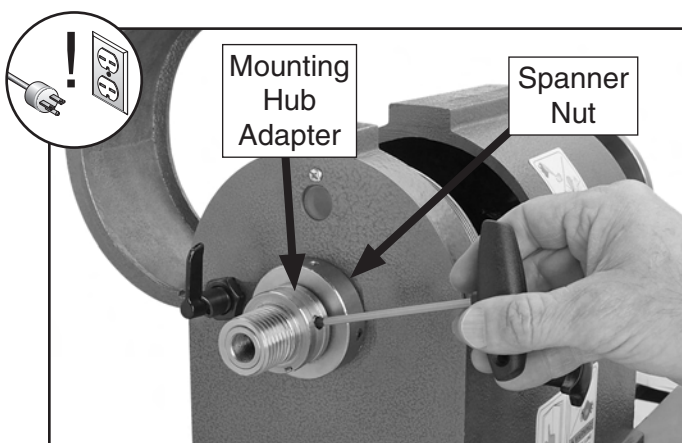

Figure 50. Loosening set screw on outboard mounting hub adapter.
11. Loosen the set screws on the outboard mounting hub adapter (see **Figure 50**). Unthread the mounting hub adapter using a spanner wrench with a 5mm pin, or by placing a 5mm diameter metal rod long enough to be used as a lever into the spanner nut hole.